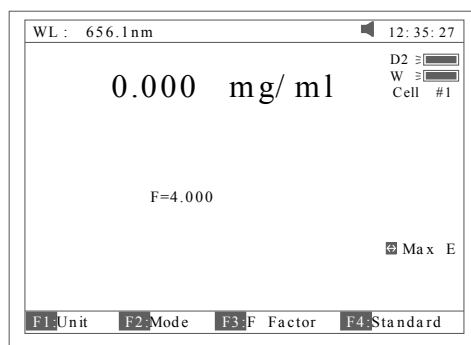

Fig 24
- 2) Press **[F4]** to input known Conc value, Fig 24. Then push the sample into lightpath to take reading of concentration.